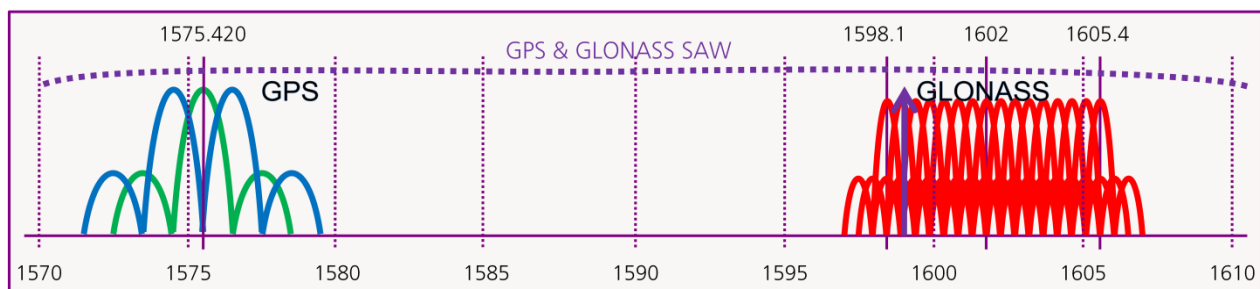

Figure 16: GPS & GLONASS SAW filter
LEA-6N and LEA-6H-0-002 designs for GLONASS require a wide RF path. Ensure that the antenna and external SAW filter are sufficient to allow GLONASS & GPS signals to pass (see Figure 16)
As seen in Figure 16, the GLONASS / GPS satellite signals are not at the same frequency. For this reason the RF path, LNA, filter, and antenna must be modified accordingly to let both signals pass.
- Use a GPS & GLONASS SAW filter (see Figure 16) that lets both GPS and GLONASS signals pass (see the recommended parts list in section 3.3.9)
Usually an active GPS antenna includes a GPS band pass filter which might filter out the GLONASS signal (see Figure 16). For this reason make sure that the filter in the active antenna is wide enough to let the GPS and GLONASS signals pass.
In combined GPS & GLONASS antennas, the antenna has to be tuned to receive both signals and the filter has a larger bandwidth to provide optimal GPS & GLONASS signal reception (see Figure 16).